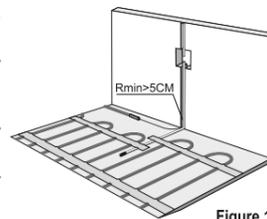

Figure 1
- Place the sensor with cable inside the corrugated pipe (diameter not less than 16mm). Bending radius of corrugated pipe not less than 5 cm (see Figure 1).
It should be mounted on an inner wall about 1-1.5m above the floor in easy of approach place with free air circulation (see Figure 1).